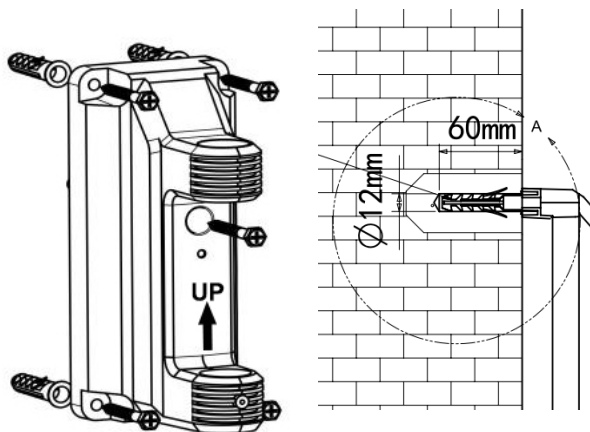

Fig.2
3. Take the mounting bracket as a template to mark the position for screws and drill four holes(12mm*60mm) on the wall(Fig.2)
4. Fix the bracket by four self-taping screws accordingly. (Fig.2)